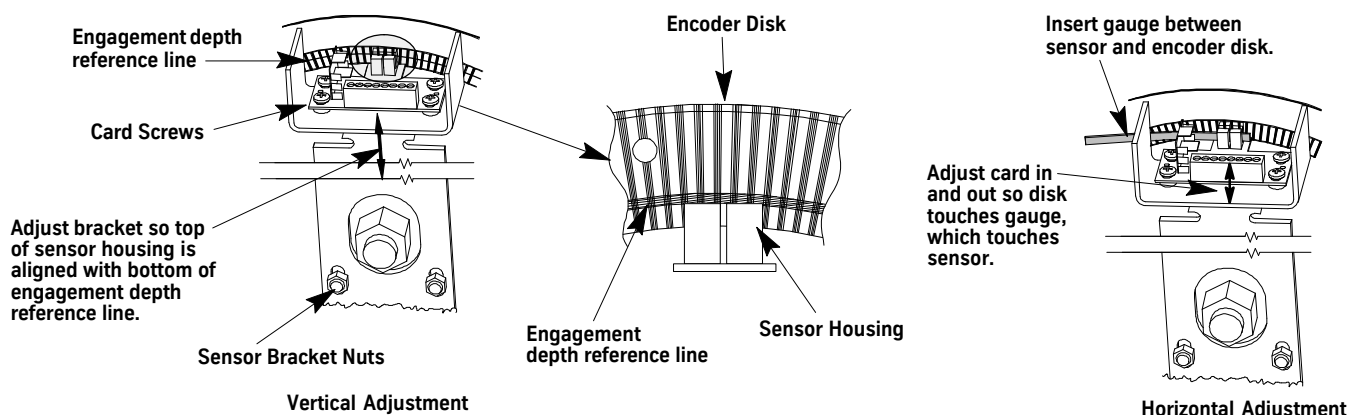

Figure 4 - Sensor Depth Alignment Detail
1. Adjust the vertical sensor-to-disk engagement. See Figure 4.
- a. Loosen the four (4) sensor bracket nuts.
- c. Start with the lower left nut, and tighten the four (4) sensor bracket nuts.
- d. Tighten the four (4) card mounting screws.